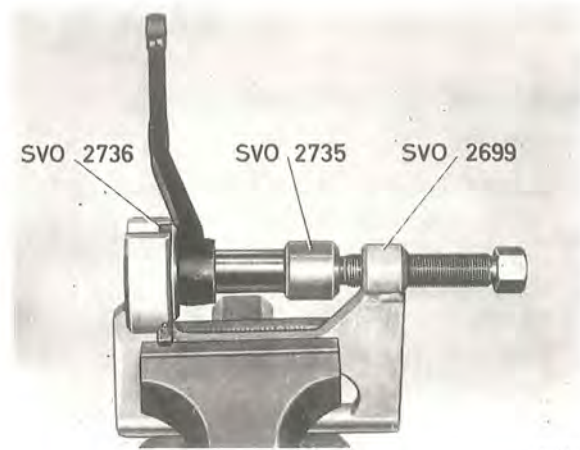

Fig. 6-44. Fitting the rubber bush, relay arm
5. Turn the relay arm and press in the new bush with tools SVO 2699 + SVO 2736 and drift SVO 2735 (see Fig. 6-44).
6. Place the relay arm in position, fit the washer (7) and the nut. Tighten the nut to a torque of 7.0—8.5 kgm (50—60 lb.ft.).